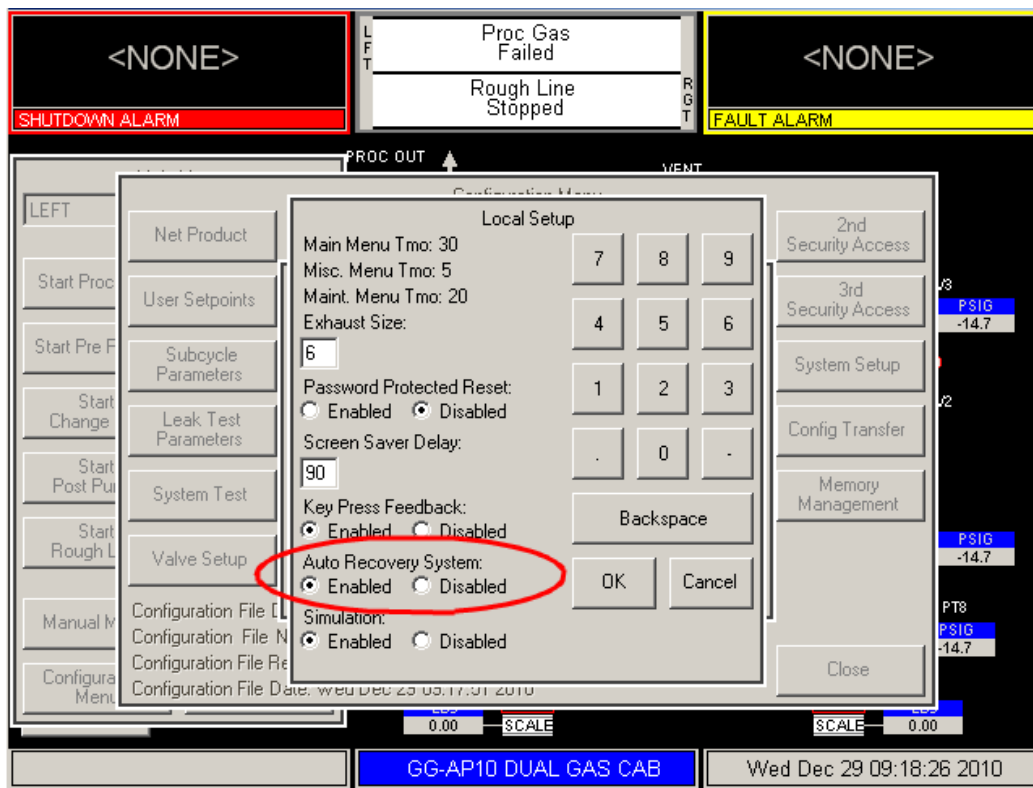

Figure 3 – Local Setup Menu Screen
- e. Change the Auto Recovery System field to “Enabled” (radio button). See Figure 3.